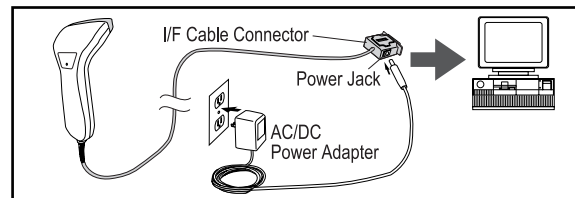

Figure 2
4. Although scanner power is typically supplied from the host terminal (Power Off the Terminal), some systems require that scanner power be supplied by an optional AC/DC power adapter. Connect the power adapter at the jack located on the I/F cable connector, then plug the adapter into an AC wall outlet (see Figure 2).